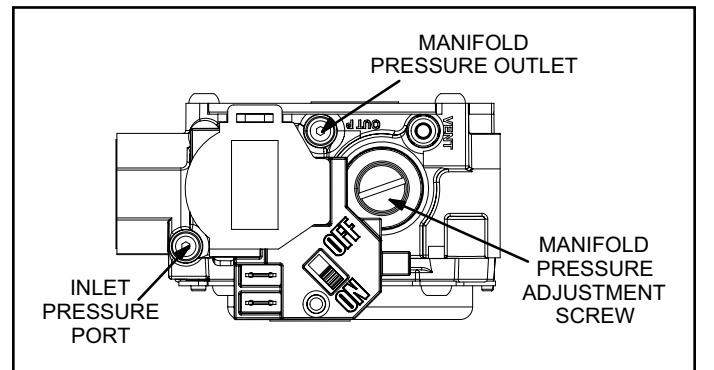

Figure 7. Gas Valve
3. Slide the gas valve switch to the “ON” position (see Figure 7).
2. Slide the gas valve switch to the "OFF" position (see Figure 7).
The manifold pressure can be measured by shutting off the gas, removing the pipe plug in the downstream side of the gas valve, and connecting a water manometer or gauge. **Under no circumstances should the final manifold pressure vary more than 0.3" w.c. from the above specified pressures.** To adjust the regulator, turn the adjusting screw on the regulator clockwise to increase pressure and input or counterclockwise to decrease pressure and input. See Figure 7 to assist in locating the regulator on the gas valve.
1. Slide the gas valve switch to the "OFF" position (see Figure 7).